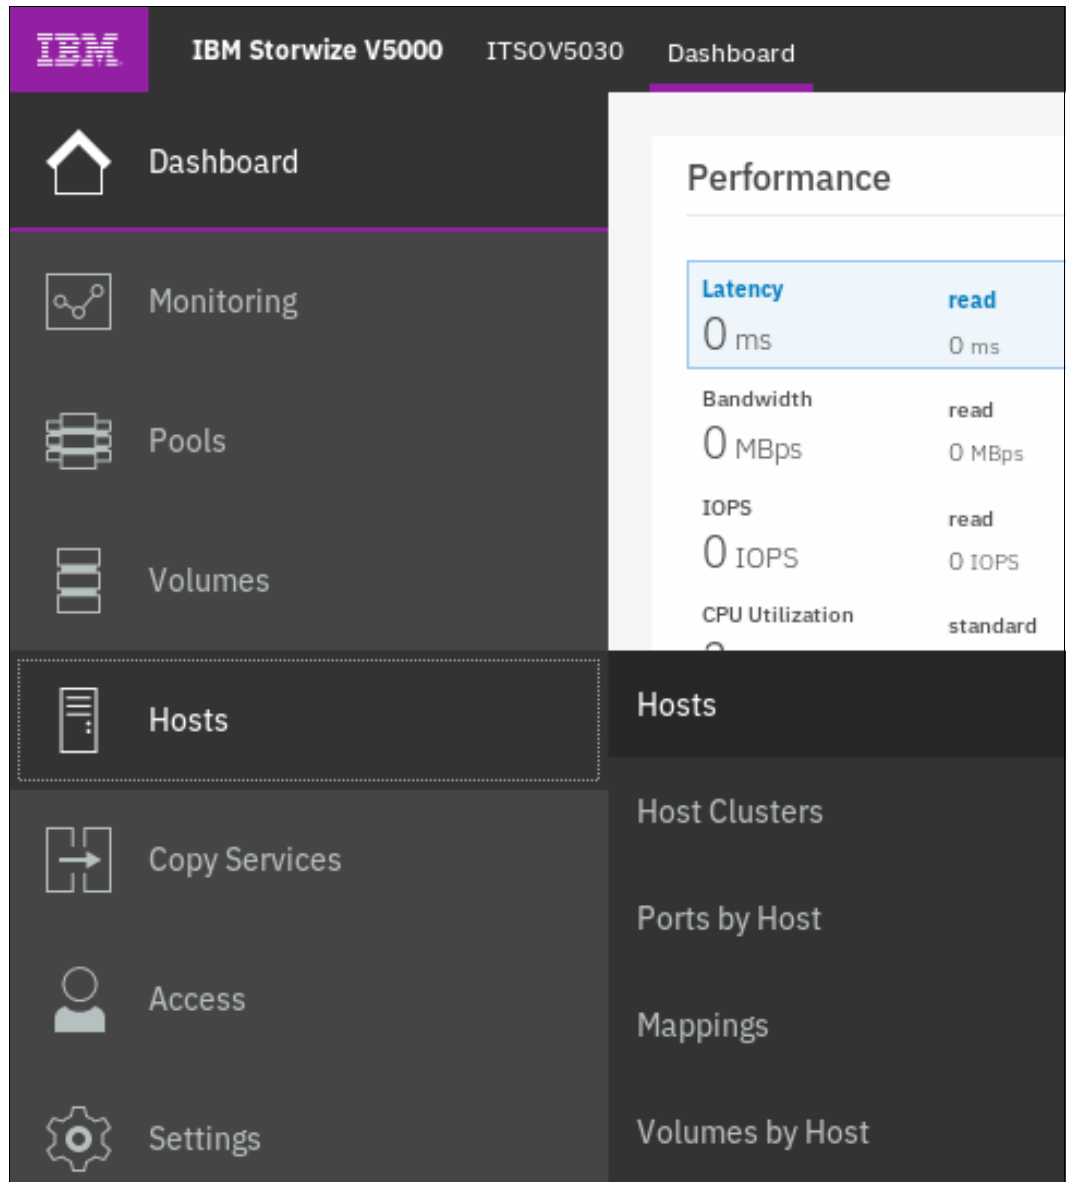

Figure 6-40 Hosts from main window
6. You can verify the host mapping by clicking **Hosts** from the main window and selecting **Hosts**, as shown in Figure 6-40.